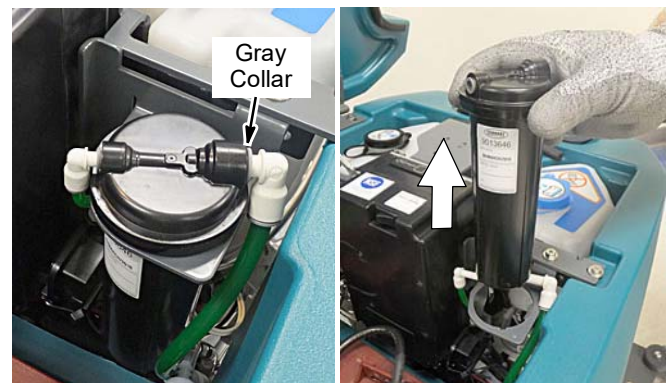

FIG. 141
3. Disconnect the two hose connectors from the top of the cartridge by pressing the gray collars inward and pulling the connectors outward (Figure 141). Lift cartridge to remove.